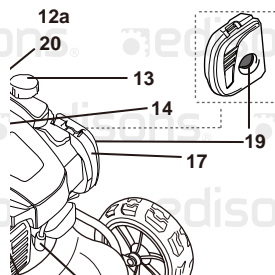

Fig. 9
Use the primer (19) when starting the product with cold engine (Fig. 9).